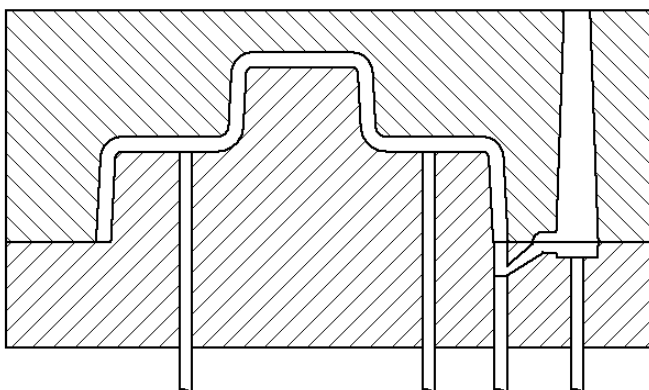

Figure 1-6: A post gate.
- ✓ **Post:** *Post gates* (see Figure 1-6) allow the plastic to be shot into the back of the mould via the paths of ejector pins (see the next section). The downside is that the ejector